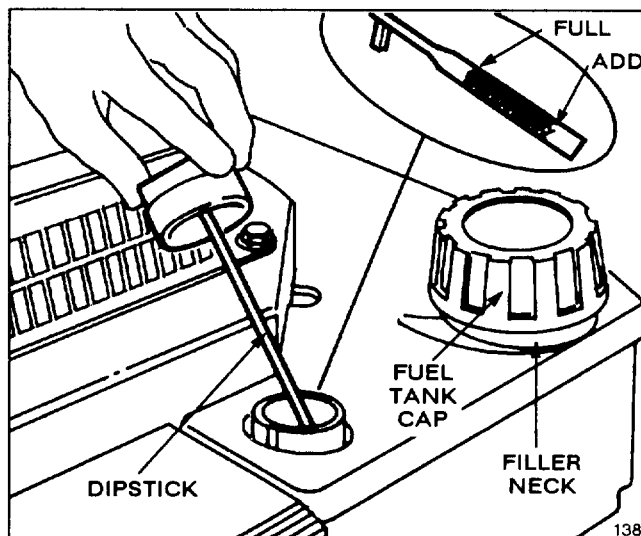

Figure 2
Before each use, ensure oil level is between FULL and ADD marks on dipstick (Fig. 2). Add oil if level is low.
3. Wipe dipstick and insert it into filler neck. Rotate cap clockwise 1/4 turn. Then remove dipstick and check level of oil (Fig. 2). If level is low, add only enough oil to raise level to FULL mark on dipstick. **DO NOT FILL ABOVE FULL MARK BECAUSE ENGINE COULD BE DAMAGED WHEN STARTED. POUR OIL SLOWLY.**
1. Clean around fuel tank cap and remove cap from tank (Fig. 2). Using unleaded gasoline, fill fuel tank to within 1/4 to 1/2 inch (6 to 13 mm) from top of tank, not into filler neck. This space is for expansion of fuel. Do not fill tank full.